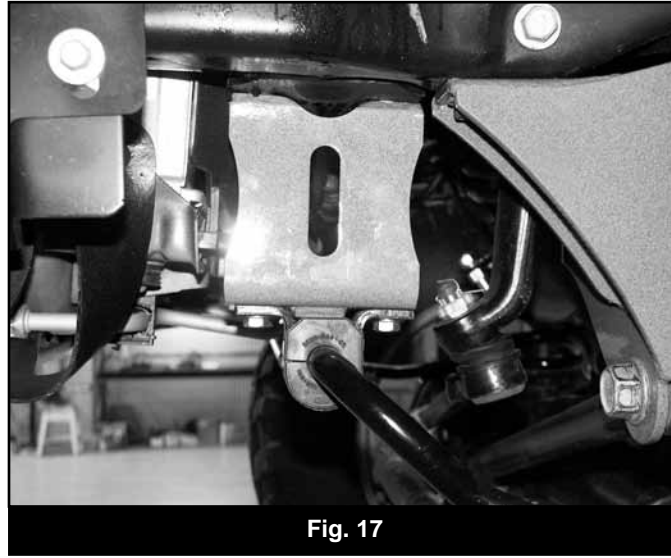

Fig. 17
51. Attach the sway bar to the new drop brackets in the correct orientation with the 3/8" hardware from bolt pack #422. Torque hardware to 30 ft-lbs (Fig 17).